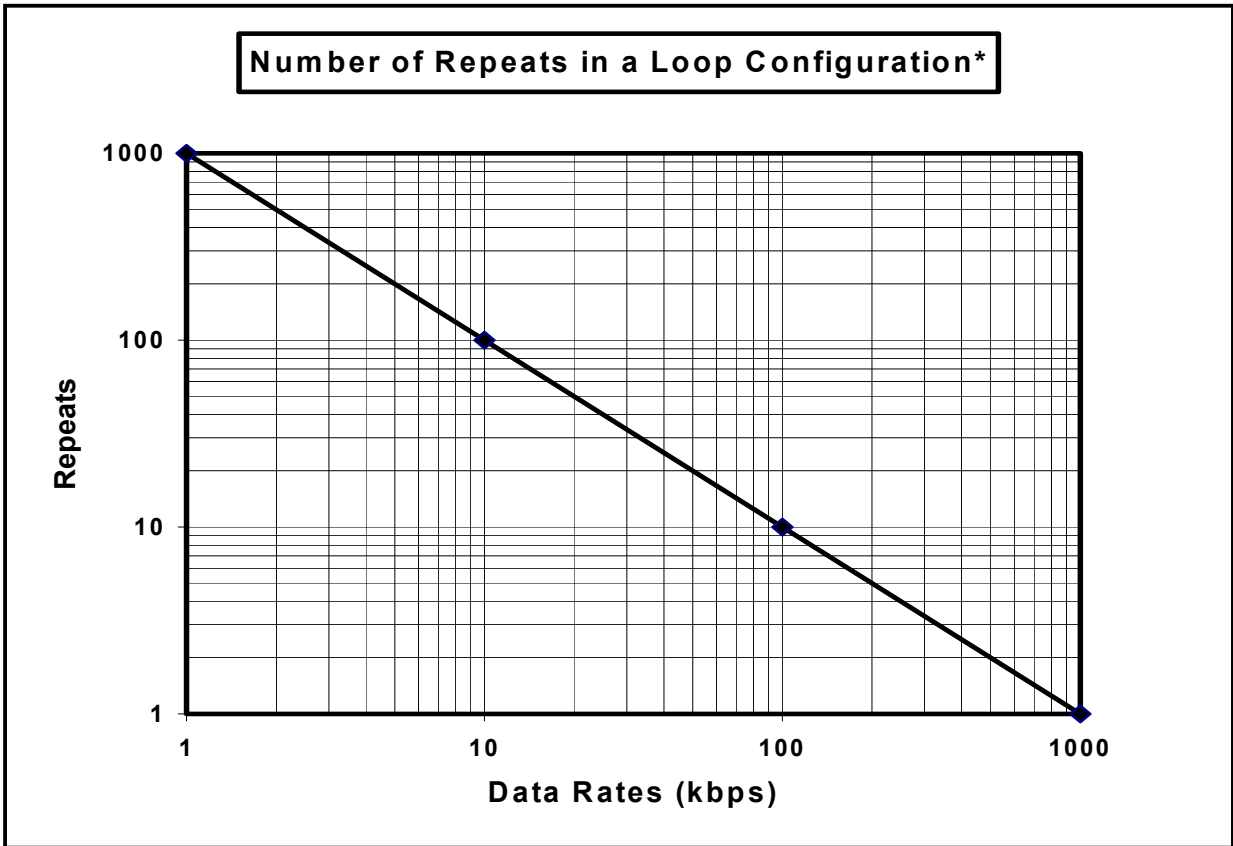

FIGURE 10. Number of Repeats
Figure 10 shows the maximum number of repeats possible if 70% of the original pulse width is required by any IED in the loop. The acceptable percentage of the original pulse width is due to the requirements of the IED's. If more of the original pulse width is necessary or less is allowable, then the number found in Figure 10 can be modified. Table 2 shows the factors to be used to correct the number of repeats found in Figure 10 for such cases.
*initial: 100 repeats (from Figure 10)